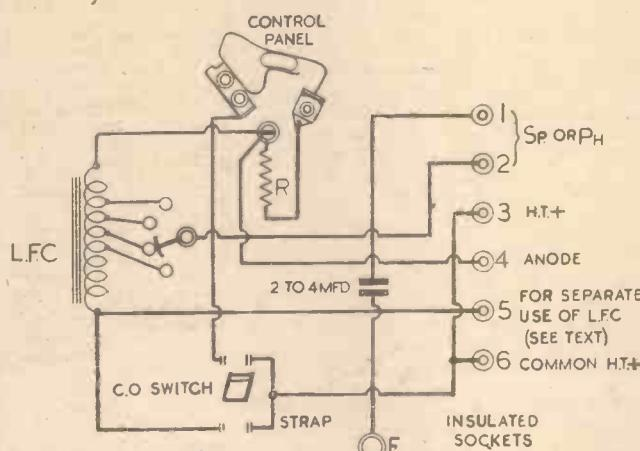
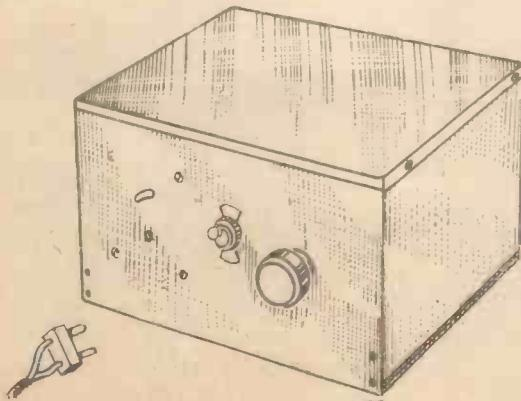

Fig. 1.—Circuit diagram of the output tester described in the text.
Fig. 2.—The finished tester.
**I**N this simple unit the circuit is confined to series anode and choke filter output only, although a similar type of unit could be designed for push-pull output if desired, but it is doubtful if its utility would warrant its construction. The full circuit, showing all details, is given in Fig. 1, and a practical layout in Fig. 2.
A Clix loudspeaker control panel was found particularly suitable for the muting and interrupter circuit, and this should, from the point of view of the finished appearance of the unit, be mounted behind the front panel, a wide plug shank clearance slot being drilled and filed as shown in Fig. 2.
The muting or load resistance "R" can be of 4,000 ohms with a rating of 1 watt for most requirements, and serves the purpose of ensuring the maintenance of the output valve anode to H.T. load when the 'phone plug is withdrawn from the control panel, this being brought about by the restoring of the wiper contact on the panel as will be noticed on examining the component, or circuit given in Fig. 1. In this way the circuit is completed for the resistance "R" through also the c.o. switch.